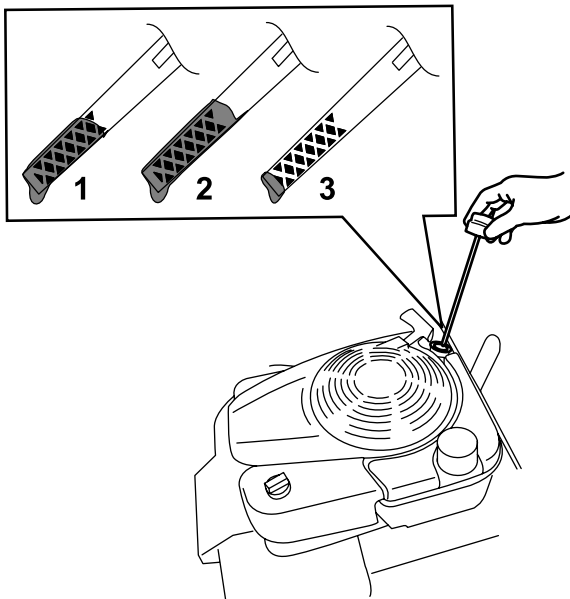

Figure 30
3. Remove the dipstick by rotating the cap counterclockwise and pulling it out (Figure 30).
- Read the oil level on the dipstick (Figure 30).